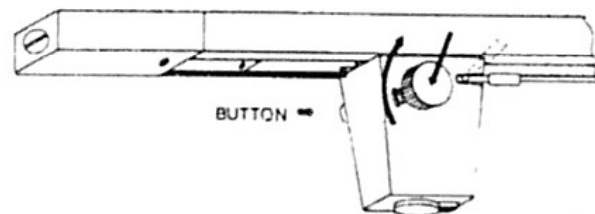

FIG 2
3. To attach FITTING, squeeze BUTTON and KNOB, insert into LYTESPAN TRACK and release. Tighten TURN KNOB. This holds FITTING to LYTESPAN TRACK mechanically. Turn LEVER to make electrical connection. See Fig. 2.
5. To remove FITTING reverse the procedure in (3), push TURN KNOB in and allow FITTING to disengage.